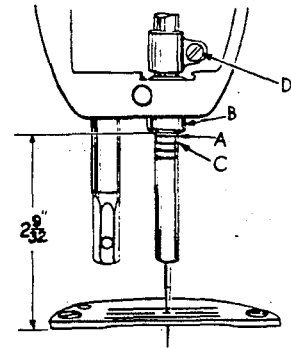
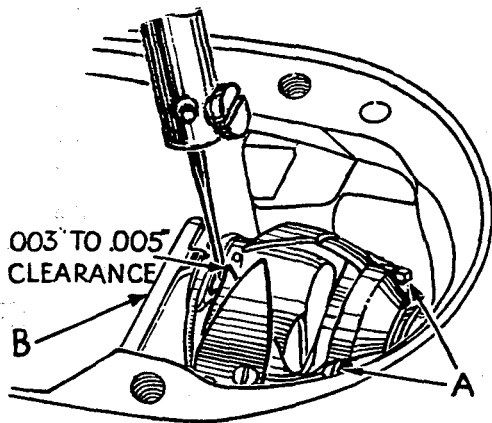

Fig. 13
Fig. 14
The lower needle bar bushing, the one to which the needle bar is timed, is set at the factory, the distance from the bottom of bushing (B, Fig. 13) to the throat plate seat is $2\frac{9}{32}$ inches.
The illustration (Fig. 13) shows the proper setting of the needle bar on Style 61400 A using extra short needles Types 183GNS or 183GPS. The setting of the needle bar on Style 61400 B using short needles Types 180GNS or 180GPS is accomplished in the same manner except that the lower pair of timing marks on the needle bar is used.
Tip the machine back so that it rests on the rest pin in the table top. Insert a new needle. Loosen the two screws and swing out the bobbin case positioning finger (B, Fig. 14). Loosen the three set screws (A) in the hook and hold the hook and bobbin case holder in such a position as to prevent interference with the needle. Turn the handwheel in operating direction until the needle bar is at its lowest position, continue to turn the handwheel until the needle is ascending and the lowest timing mark of the pair used (C, Fig. 13) in setting the needle bar is even with the lower edge of the needle bar bushing (B).